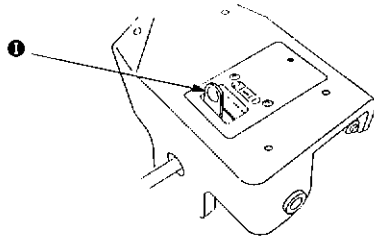

Fig. 8
11. Changing Stitch Ratio (Fig. 8)